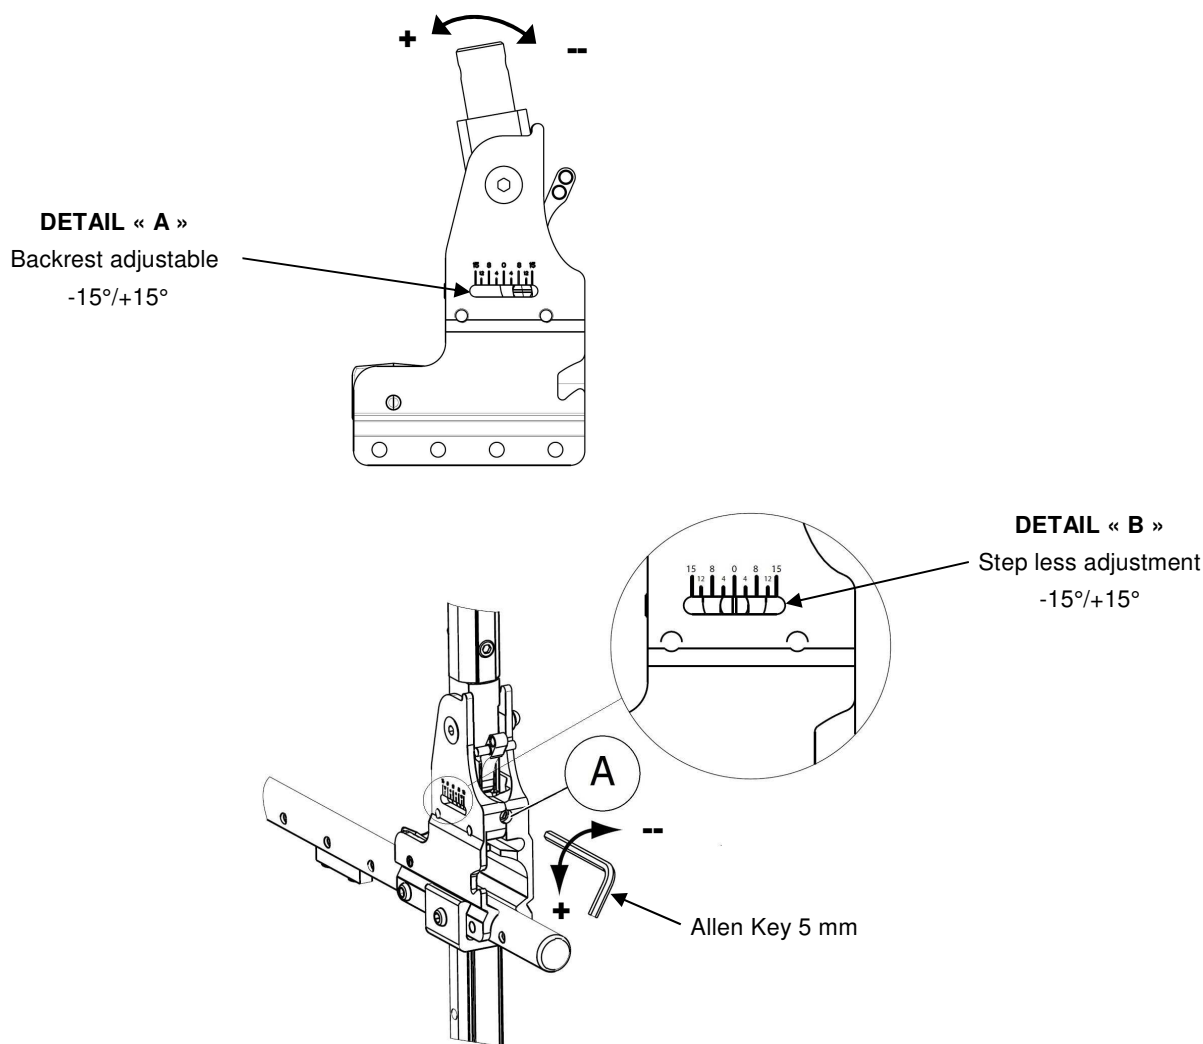

FIGURE 4.5 Adjusting the Angle Adjustable Backrest
NOTE: For this procedure, refer to FIGURE 4.5, next page.
2. Turn Allen key (5 mm) clockwise to obtain a negative angle.
3. Alternatively, turn Allen key (5 mm) under clockwise to obtain a positive angle.
4. Ensure both adjustment to the desired angle are equal on each side of the Back Cane Bracket. Refer to Detail "B" of FIGURE 4.5